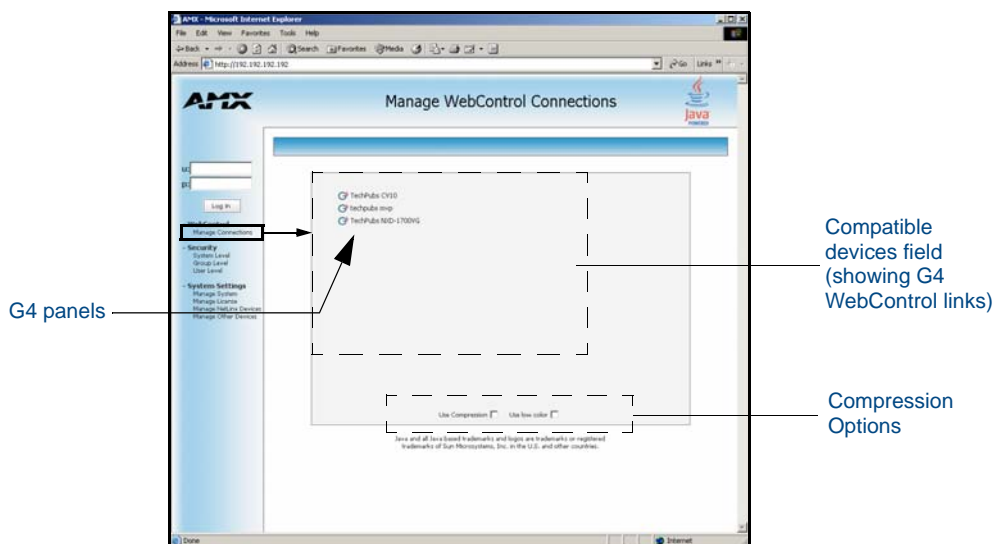

FIG. 69 Manage WebControl Connections page (populated with compatible panels)
5. This Manage WebControl Connections page (FIG. 69) is accessed by clicking on the **Manage connections** link (*within the Web Control section within the Navigation frame*). Once activated, this page displays links to G4 panels running the latest G4 Web Control feature (*previously setup and activated on the panel*).